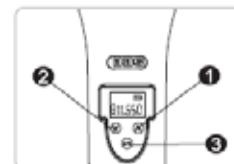

Figure 4
5. Aim the connectors exactly for screwing on the microphone head clockwise, (Figure 4)